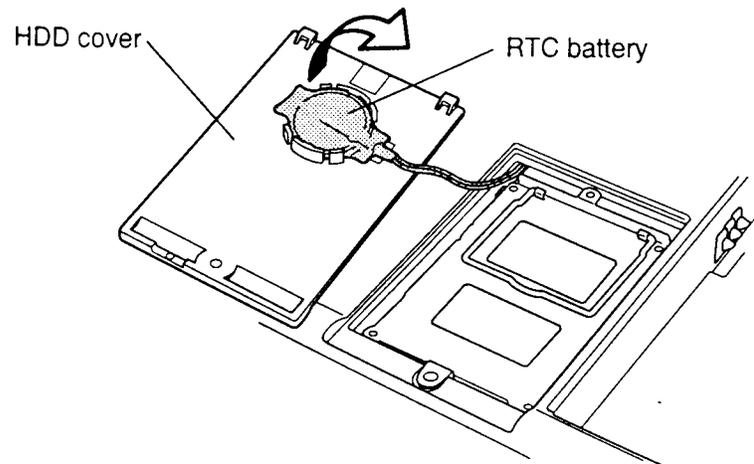

Figure 4-5 Disconnecting the RTC Battery
- Carefully rotate the **HDD cover** out of its seating and gently disconnect the **RTC battery** from the **HDD cover** (Figure 4-5).
3. Connect the **RTC battery** to the **HDD cover** (Figure 4-5).